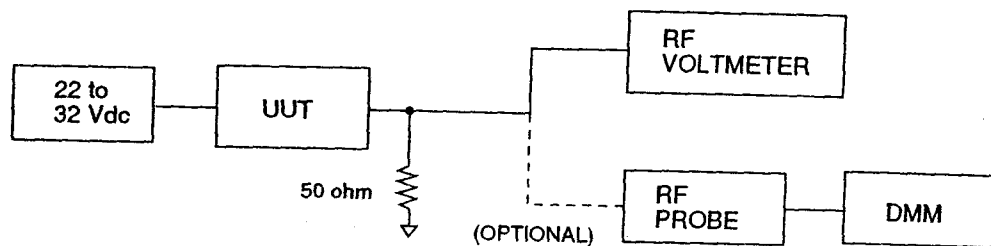

Figure 4-1. Output Level Test Configuration
- (1) Connect the UUT as shown in Figure 4-1.
- (2) Apply dc power and allow the UUT to stabilize (> 10 minutes).
- (3) Measure output level with a rf voltmeter, using a 50 ohm resistive termination. Record the voltage level of output.
- (4) Observed voltage level must be 1 Vrms. $\pm 10\%$.